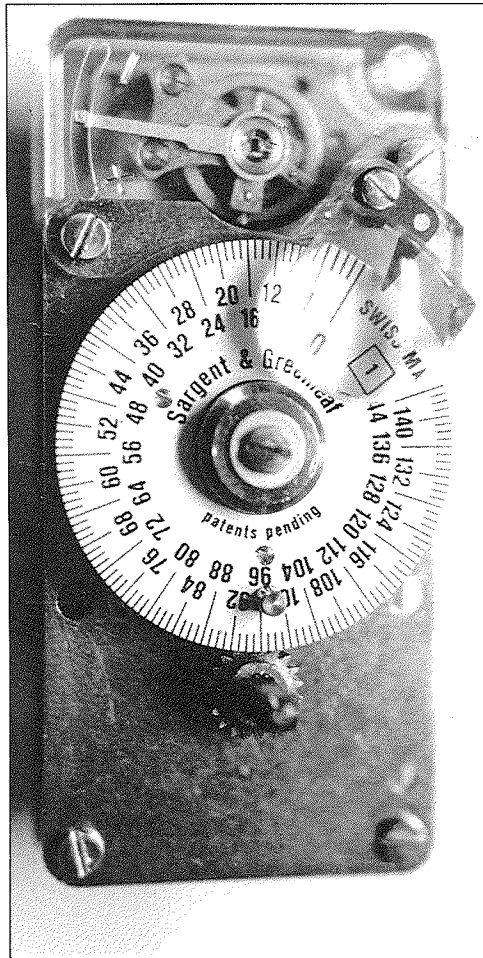

Figure 10.
With the dial removed and all power released from the movement, replace the dial and position it so that the indicator points to zero. Wind the movement so that the dial indicates about 18 hours (Figure 9). Remove the dial and reposition it so that it indicates zero hours. When the movement runs down (i.e., the dial pin stops the movement from running down any further as in Figure 10), the movement will still have a reserve wind on the mainspring of several hours. This will provide enough kinetic energy to: (1) start the movement once an initial wind is put on the movement,
To remove an overwind, simply hold back the main train of wheels with your thumb and index finger. Remove the platform escapement and allow the train to run down by braking your thumb against the fifth wheel (as when releasing power) until the dial pin stops any further release of power (dial indicating less than zero) (Figure 10). Replace the platform escapement and wind.